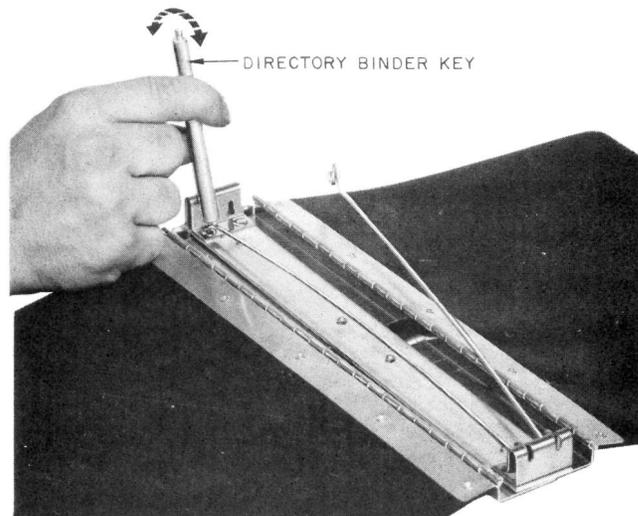
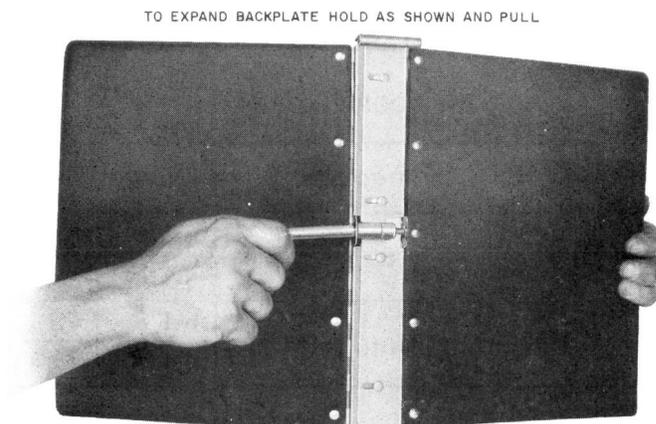

Fig. 15—Unlatching Outdoor Binder Rod
Fig. 16—Unlocking Backplate—Rear View
- (1) Unlatch binder rods (Fig. 15).
- (2) Screw key into locking device, and pull to unlock adjustable backplate. LEAVE KEY IN LOCK (Fig. 16).
(3) Open backplate to maximum width.
(4) Place directory in binder and reduce backplate to thickness of directory.
(5) Hold backplate against directory and remove key (this locks backplate).
(6) Place binder rod between pages of directory to coincide with binder rod retaining slots.
(7) Latch binder rod at top hinge into binder rod retaining slot (Fig. 15).